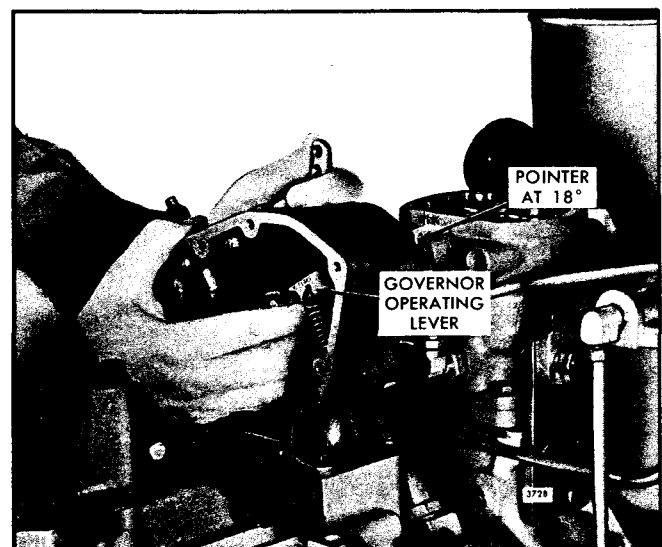

Fig. 6 - Moving Operating Lever
- Reach in behind the differential lever in the governor control housing and force the governor operating lever upward until the governor pointer is aligned exactly with the 18° mark (Fig. 6). Hold the lever in this position.